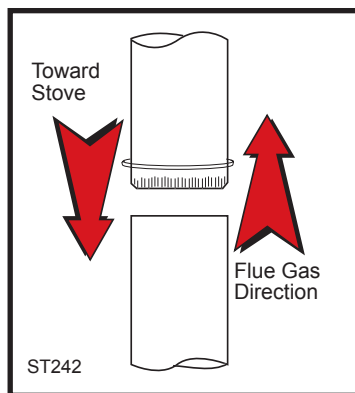

Fig. 4 Chimney connector.
- Begin assembly at the flue collar of the stove. Insert the first crimped end into the stove's flue collar, and keep each crimped end pointing toward the stove. (Fig. 4) Using the holes in the flue collar as guides, drill 1/8" (3 mm) holes in the bottom of the first